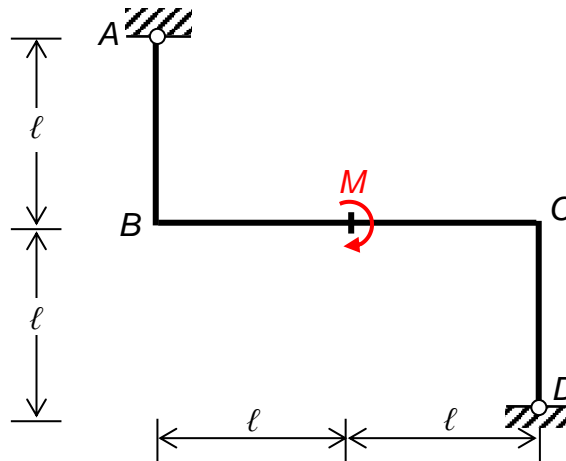

Figure Q2a
- (a) The frame shown in Figure Q2a is pinned at  $A$  and  $D$ , moment-resisting at  $B$  and  $C$ , and loaded by a point moment  $M$  as indicated in the diagram. The frame is made of members of constant bending stiffness  $EI$  throughout. Find numerically the reactions at  $A$  and  $D$ . Draw the bending moment diagram throughout the frame indicating actual values at  $A, B, C, D$ . Draw a consistent deflected shape.